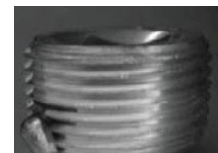
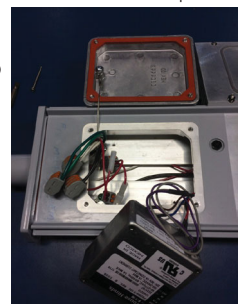

Figure 14
Figure 15
1. Verify sufficient STL lubricant is on conduit entries and that all unused conduit entries on the end caps are closed with lubricated plugs (see Figure 14).
2. Verify conduit is installed to at least five (5) full threads into the end cap conduit entries. Recommend approximately 1/8" bead STL on conduit entries.
6. Verify all wires are safely and neatly inside driver cover and not on top of driver. Re-attach driver cover to fixture housing (see Figure 15).
8. Remove the two (2) screws that secure the AC driver; remove the old AC driver.
10. Reinstall the new AC driver into the luminaire, ensuring that the leads are facing towards the EM driver (see Figure 15).
11. Ensure that the AC driver is in direct contact with the luminaire housing and no wires are being pinched between the driver and the housing. Secure with two (2) screws and tighten to 5 in.-lb. (0.6 N-m).